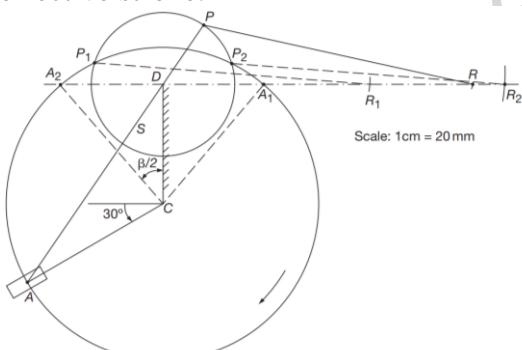

Fig.4b
b) In a Whitworth quick return motion mechanism, as shown in Figure 4b the distance between the fixed centers is 60 mm and the length of the driving crank is 80 mm. The length of the slotted lever is 160 mm and length of the connecting rod is 140 mm. Find the ratio of the time of cutting stroke to the time of return stroke and also the effective stroke.